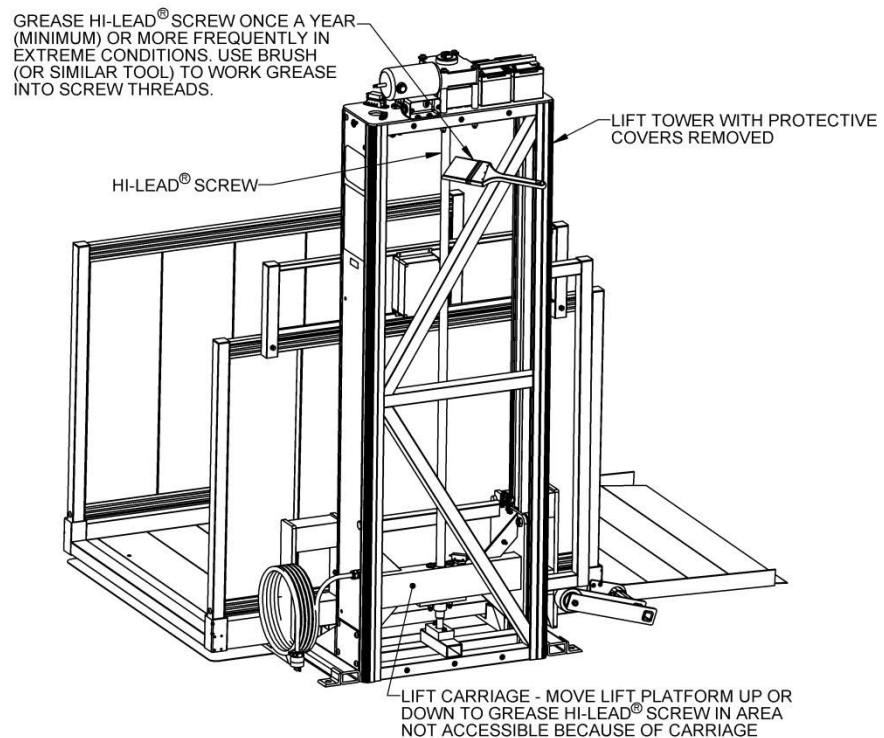

FIG. 14.1
1. The Hi-Lead[®] Screw which drives the lift platform up and down must be lubricated at minimum once per year or more frequently if the VPL is used in extremely hot or cold locations. Use Chevron Ulti-plex[®] Synthetic Grease EP, NLGI Grade 1.5, or equivalent. (FIG. 14.1)